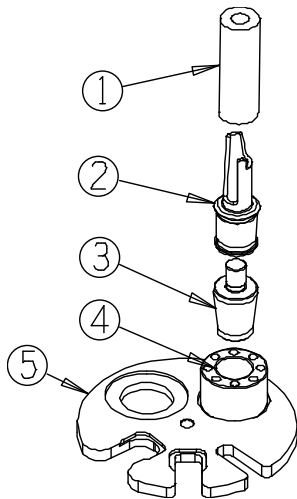

Figure 12-3a HH79 Inserting the Valve Guide into the Shock Absorber.
2. Refer to Figures 12-3a, 12-3b. Position the Shock Absorber on the Press Plate Assembly.
3. Set Valve Guide Installation Tool in the center bore of the Shock Absorber as shown in Figure 12-3a, 12-2b.